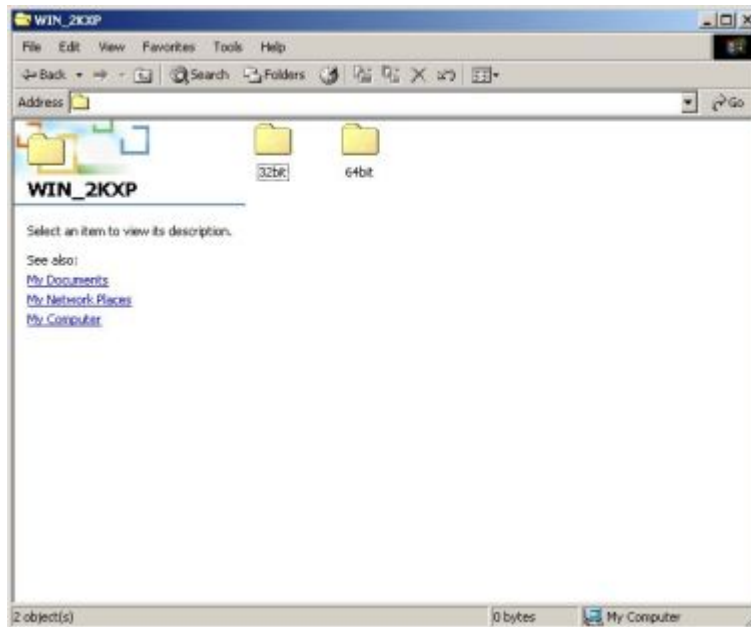

Figure 7-31: Select Operating System Type
- Step 6:** The window in **Figure 7-31** appears.
- Step 7:** In **Figure 7-31** select the operating system type installed on the system.